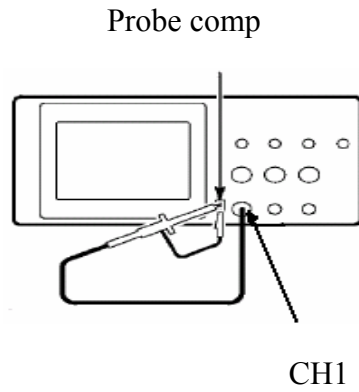

Fig.5 Connection of the Probe
Connect the probe tip and the ground clamp to the connector of the probe compensator, shown as Fig.5.
1. Set the attenuation coefficient of the probe in the menu as 10X and that of the switch in the probe as 10X, and connect the oscilloscope probe with the CH1 channel. If a probe hook tip is used, ensure that it keeps in close touch with the probe. Connect the probe tip with the signal connector of the probe compensator and connect the reference wire clamp with the ground wire connector of the probe connector, and then press the button AUTOSSET (see Fig.5).